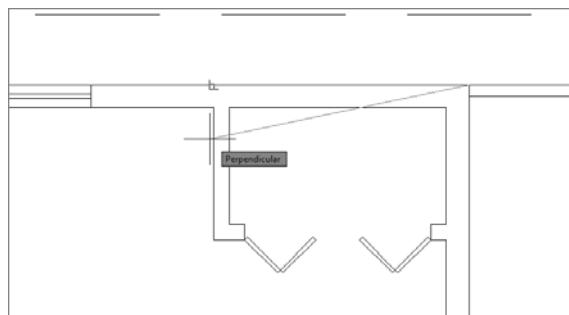

FIGURE 12.21 Selecting the wall with the Perpendicular osnap
4. Activate the Perpendicular osnap, place the cursor over the outside of the closet wall as shown in Figure 12.21, and then click.